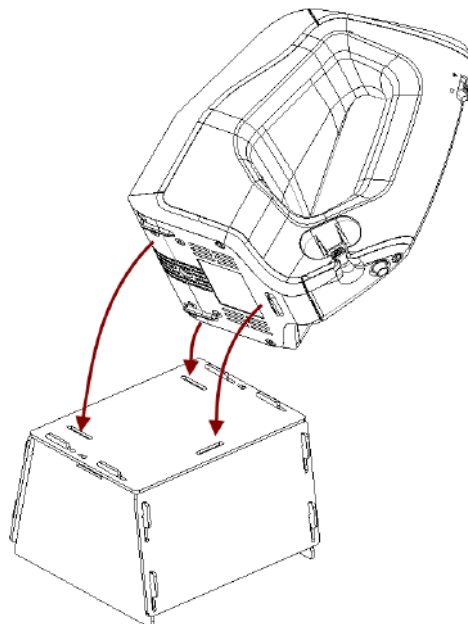

Figure 162: Placing Artec Spider on the stand
3. Place the scanner on the scanner stand, making sure that you insert the three scanner stems in the three slots of the stand cover (see Figure 162).